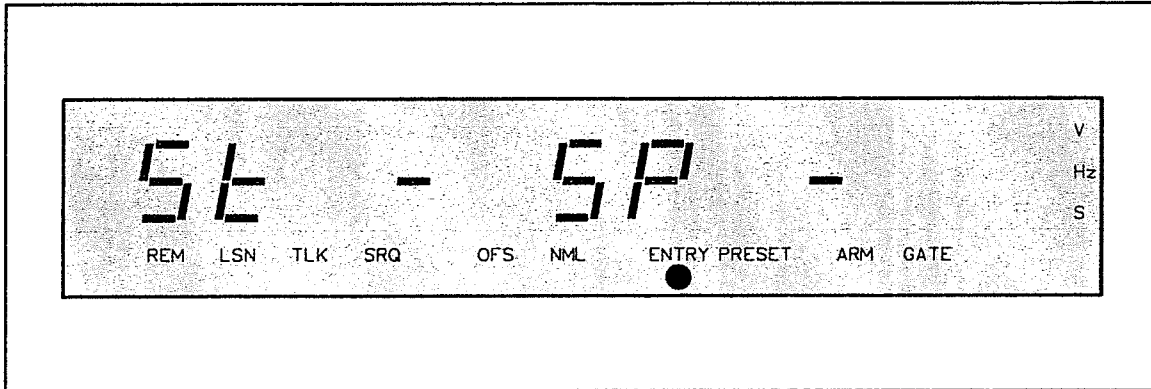
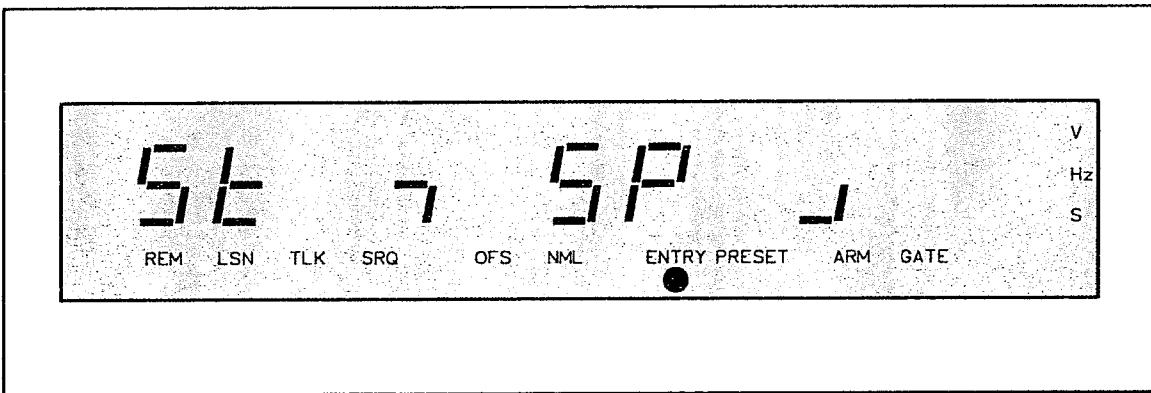

Figure 3-34. EXTERNAL ARM SELECT Entry Mode Display, Arming Off
Figure 3-35. EXTERNAL ARM SELECT Display, Arming States Selected
3-196. External arming can be used to specify the start and/or stop of a measurement, by a signal that is not directly involved in the measurement. When external arming is enabled, a signal must be connected to the ARM input connector to arm the gate to open and/or close. Pressing the EXT ARM SELECT key displays the arming status, shown in Figure 3-34, and allows the START ARM (open gate) and/or STOP ARM (close gate) states to be changed.
3-197. The arming status is represented as "St" (START ARM) and "SP" (STOP ARM). The states are defined by " - " (arming off), shown in Figure 3-34; and " 7 " (arming set on negative slope), and " J " (arming set on positive slope) as shown Figure 3-35 slope). The channel A SLOPE key controls the START ARM, and the channel B SLOPE key controls the STOP ARM.
2. The counter displays, “St” for start arm, “SP” for stop arm, and the current start/stop arm states (see *Figure 3-35*).
3. The ENTRY light flashes, indicating the arming states may be changed (see *Figure 3-35*).
Figure 3-35 shows the EXT ARM SELECT entry mode display, with the START ARM set negative, and the STOP ARM set positive.